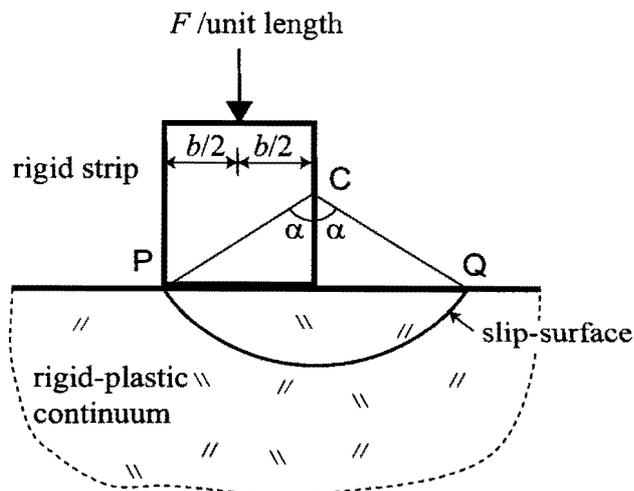

Figure 4
4. Figure 4 shows, in cross-sectional view, a long rigid strip of breadth b , being pressed into the upper surface of a material, which may be considered to extend indefinitely into the page. The indentation force per unit length along the strip is F . The material yield stress in pure shear is k .